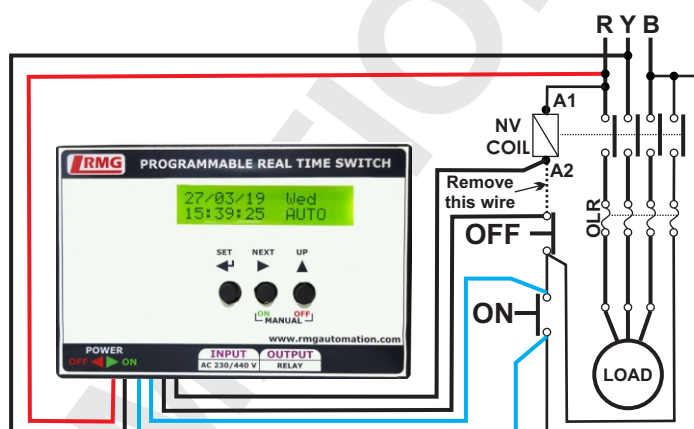
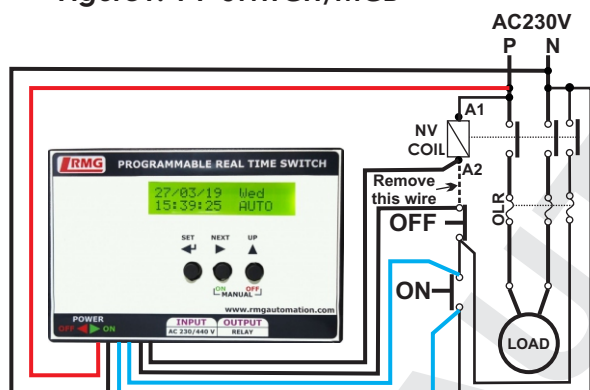

Figure2: 3Φ Starter
Figure3: 1Φ Starter
Step 4: For starter, Connect blue pair wire to ON button of starter in parallel and black pair wire to OFF button in series (Refer to figure. 2 and figure. 3)